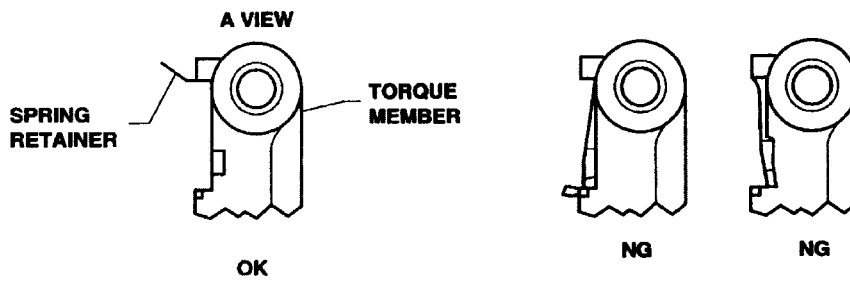

Figure 3
4. Place the retainer onto the torque member, being sure it is seated properly. See figure 3.